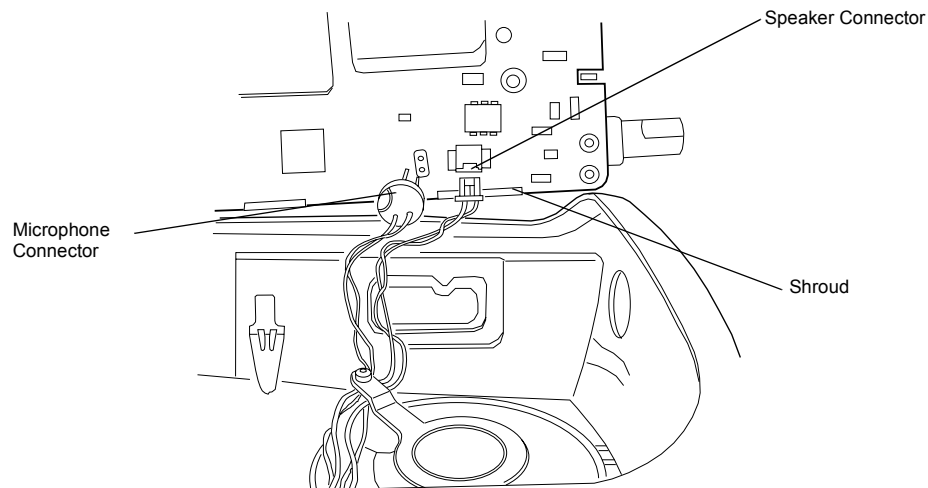

Figure 8-13. Microphone and Speaker Wires Re-assembly
- a. Connect the speaker wire assembly into the 10-pin connector on the main board and bend the wires at the board connector so the wires are positioned toward the top of the radio (Figure 8-13).
- b. Connect the microphone wire assembly into the two hole socket on the main board and bend the wires at the board connector so the wires are positioned toward the top of the radio (Figure 8-13).